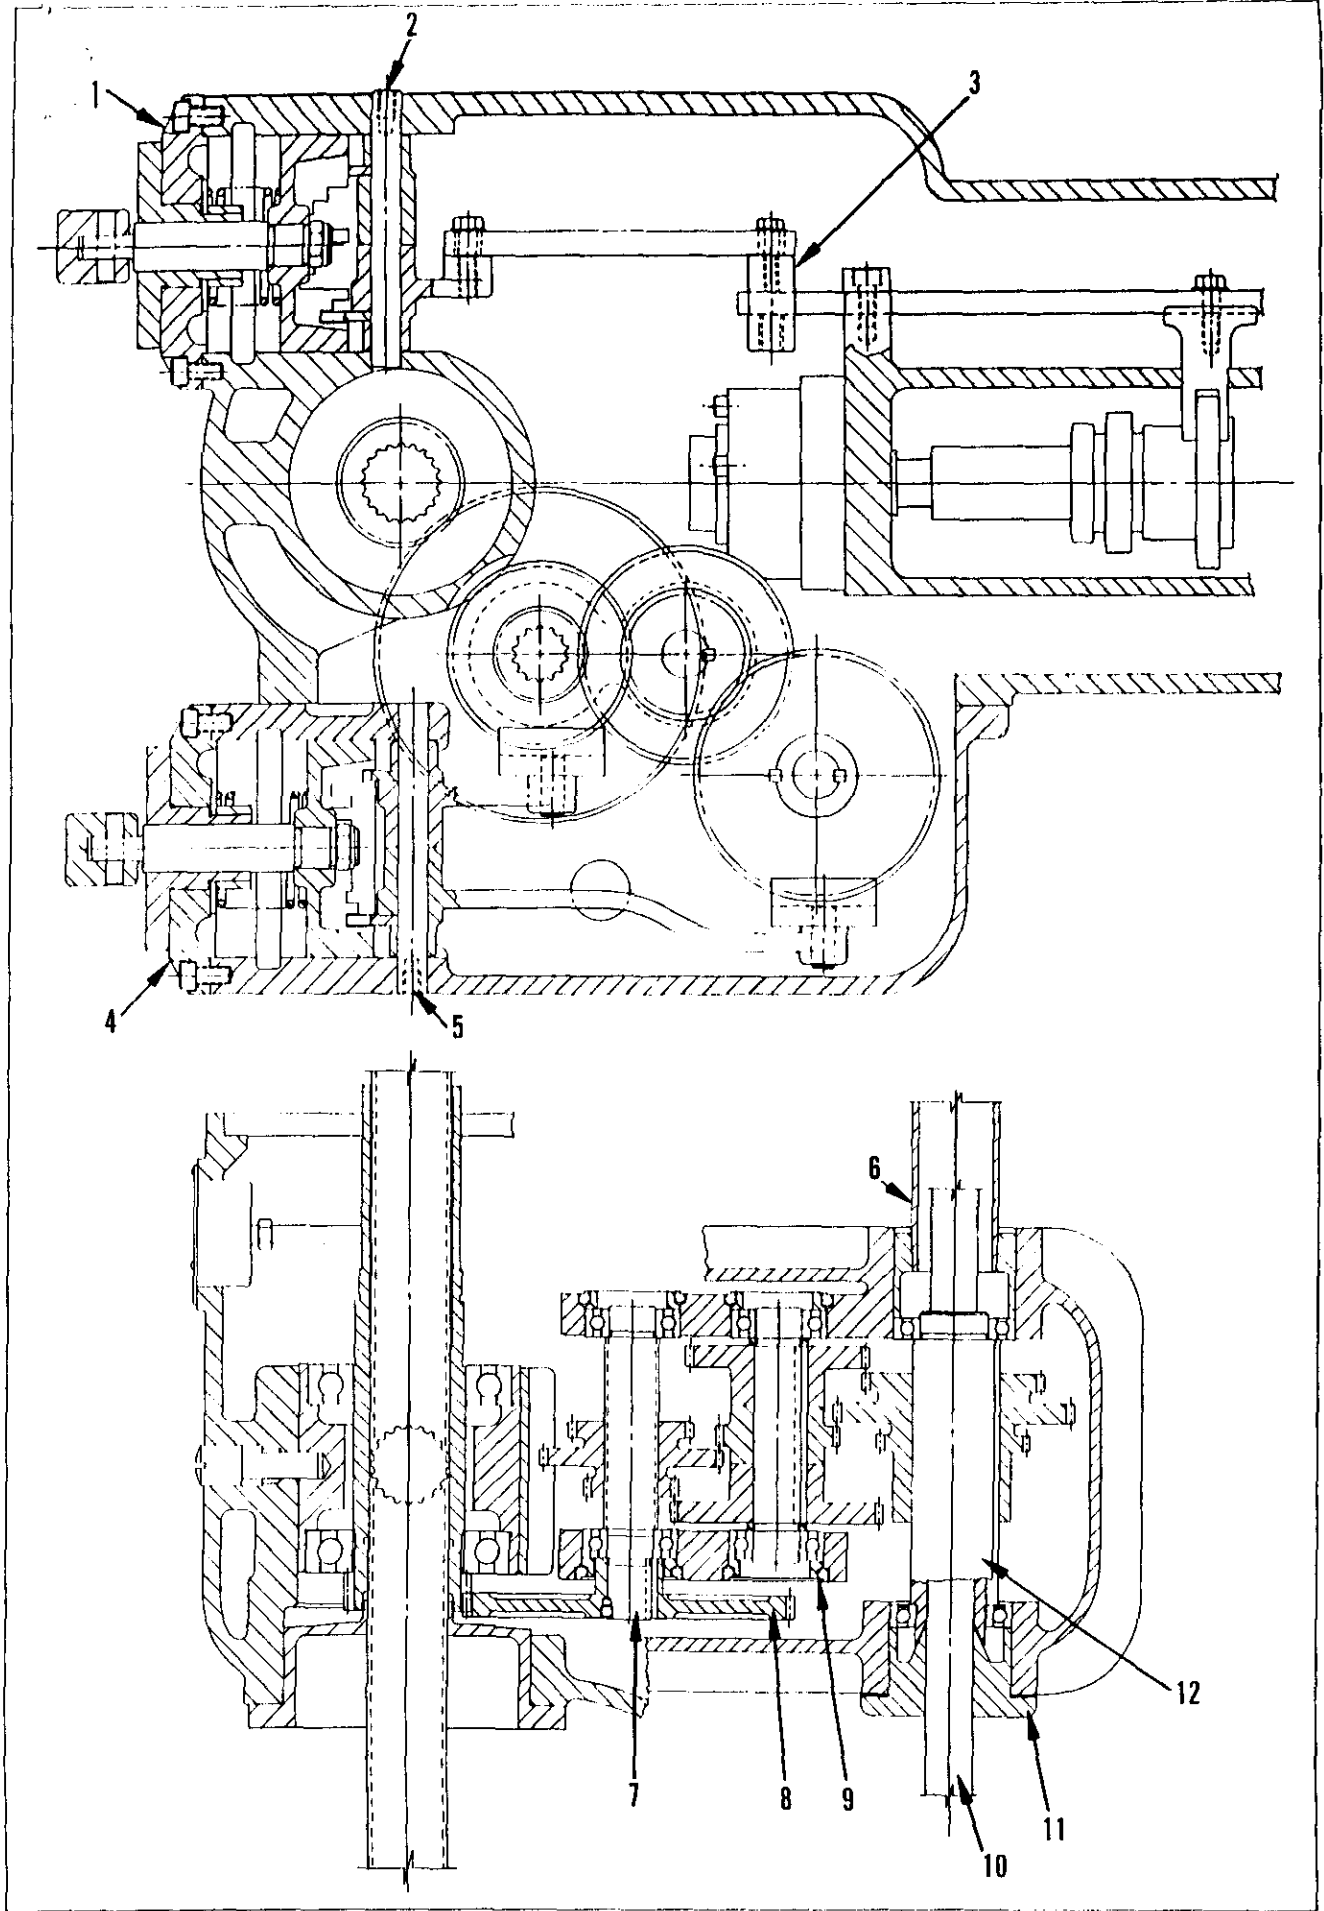

Figure M-1. Top Head - Feed Transmission
## FEED TRANSMISSION REMOVAL (Figure M-1)
3. Raise feed shaft (10, Figure M-1) up high enough to entirely clear the sliding head and lock in place by means of a 1" set collar or lathe dog slipped over the upper end of the shaft.
## DISASSEMBLY OF FEED GEAR BOX (Figure M-1)
## GEAR SHIFTING MECHANISM - DIAL - FEED OR SPEED (Figure M-1)
### LEGEND - Figure M-1
1. Loosen the cap screws from the cover (2) around the motor shaft.
3. Remove the top cover (10).
6. Reach through the feed box opening and loosen the set screws in the square collars (3, Figure M-1), which are mounted on the gear shifter bars. By pulling out on the speed change lever, the collars can be slipped off the shifter bars.